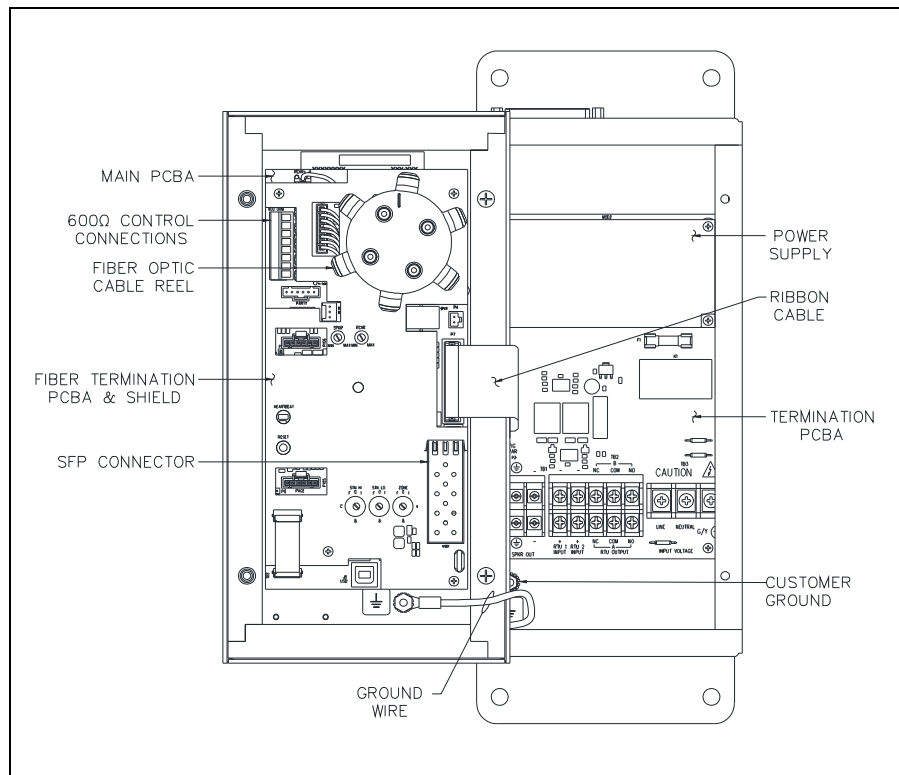

Figure 3. SP2 Fiber Class I Div. 2 Station—Interior View
2. Secure it to the ground terminal located in the lower left corner at the back of the rear enclosure (see Figure 3).